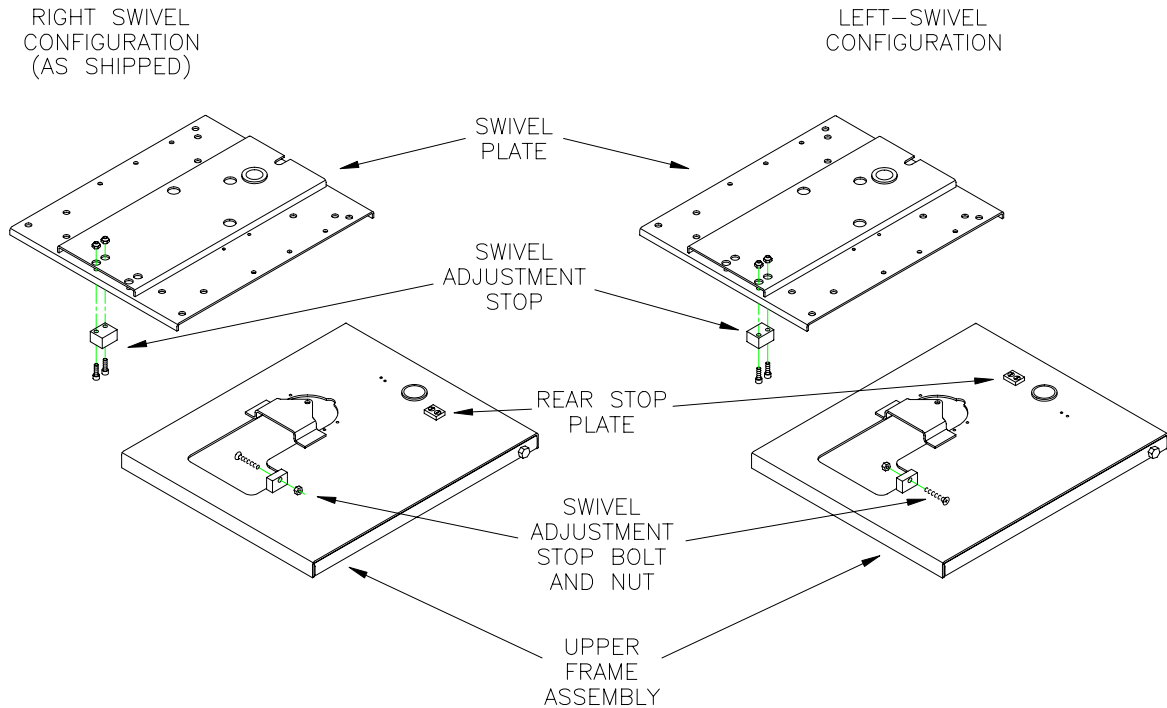

FIGURE 2-1: SWIVEL PLATE CONVERSION
4. Refer to **Figure 2-1**. At underside of swivel plate, remove and reposition swivel adjustment stop, rear stop plate, and swivel adjustment stop bolt and nut as shown.